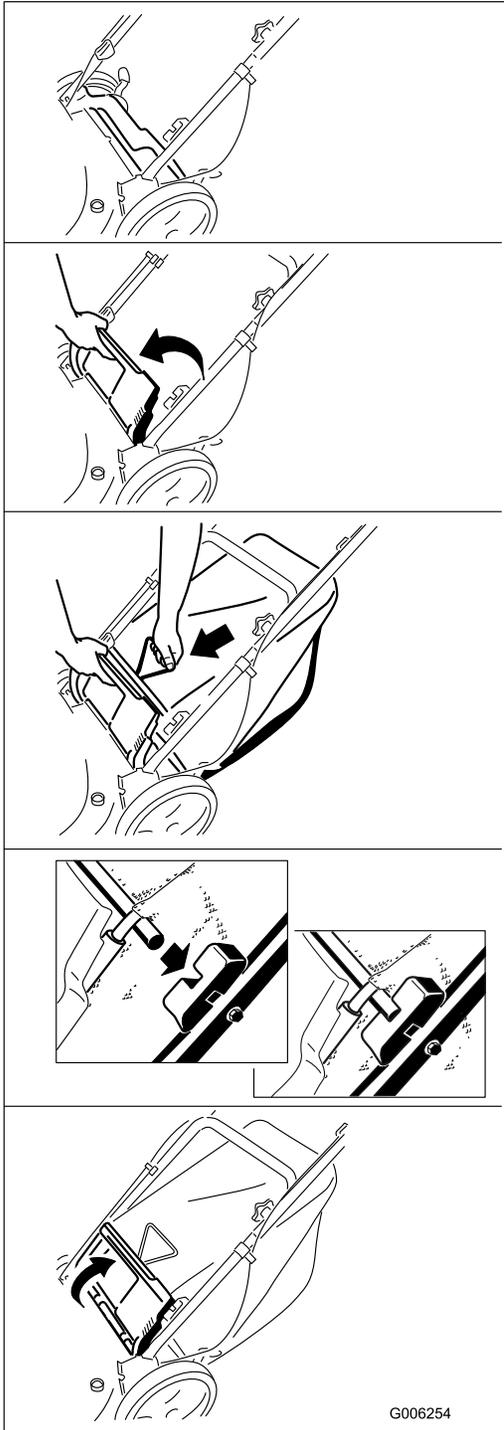

Figure 20
2. Install the grass bag (Figure 20).